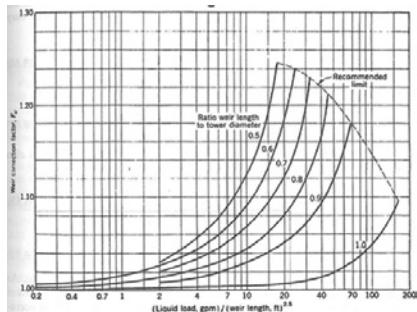

FIGURE 7. The correction factor from Equation (11) can be estimated from this graph from Ref. 10
The correction factor F_w in Equations (11) and (12) can be estimated using the graph in Figure 7 [10].